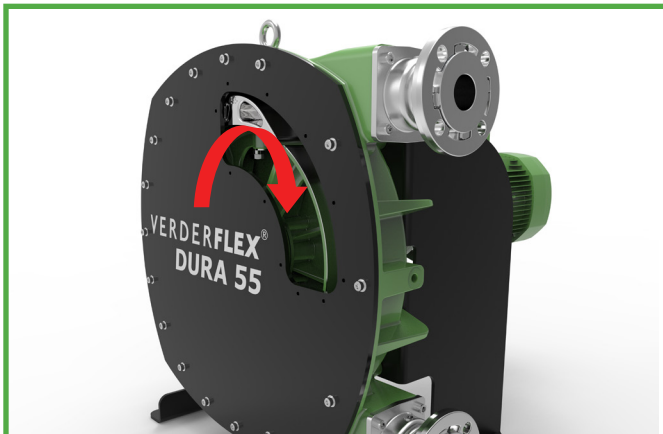

Figure 16. - Filling the pump with lubricant
3. Fill the pump casing with lubricant to the lowest bolt hole of the inspection window (→Figure 16).